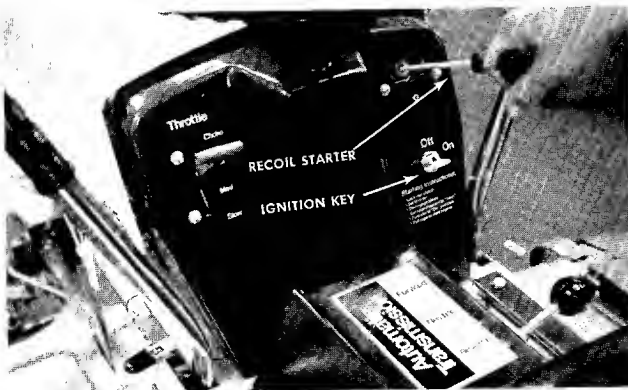

FIGURE 14. RECOIL STARTER
- Turn the ignition key to the ON position. See figure 14.
- Slowly release the recoil starter and lock it into the dashboard as shown in figure 14.